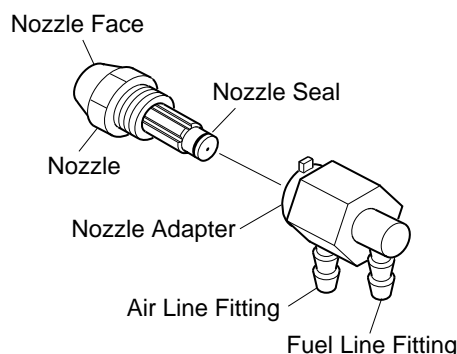

Figure 21 - Nozzle and Nozzle Adapter
6. Carefully remove nozzle from the nozzle adapter using 5/8" socket wrench (see Figure 21).
9. Replace nozzle into nozzle adapter until nozzle seats. Tighten 1/3 turn more using 5/8" socket wrench 4.5 to 5.1 N-m (40 to 45 in-lbs). See Figure 21.